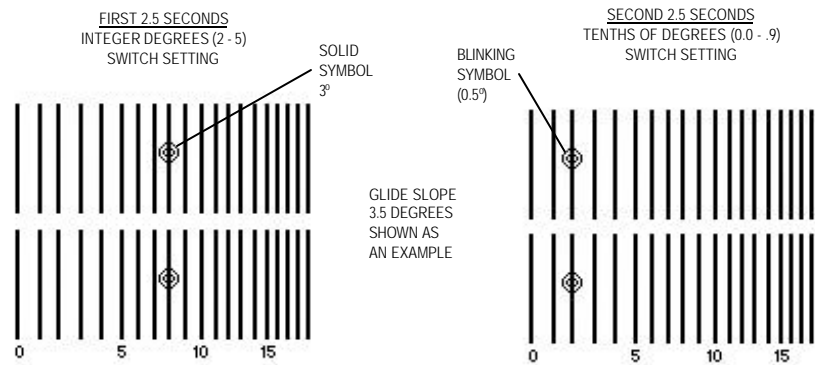

Figure 2-6. Glide Path Verification In Elevation.
- d. To verify the glide slope, repeat steps b. and c. of **SETTING AND VERIFYING THE GLIDE SLOPE**. Figure 2-6 shows an example of glide slope verification, you must observe that the symbols are on the range marks which correspond with the number of the desired glide path.